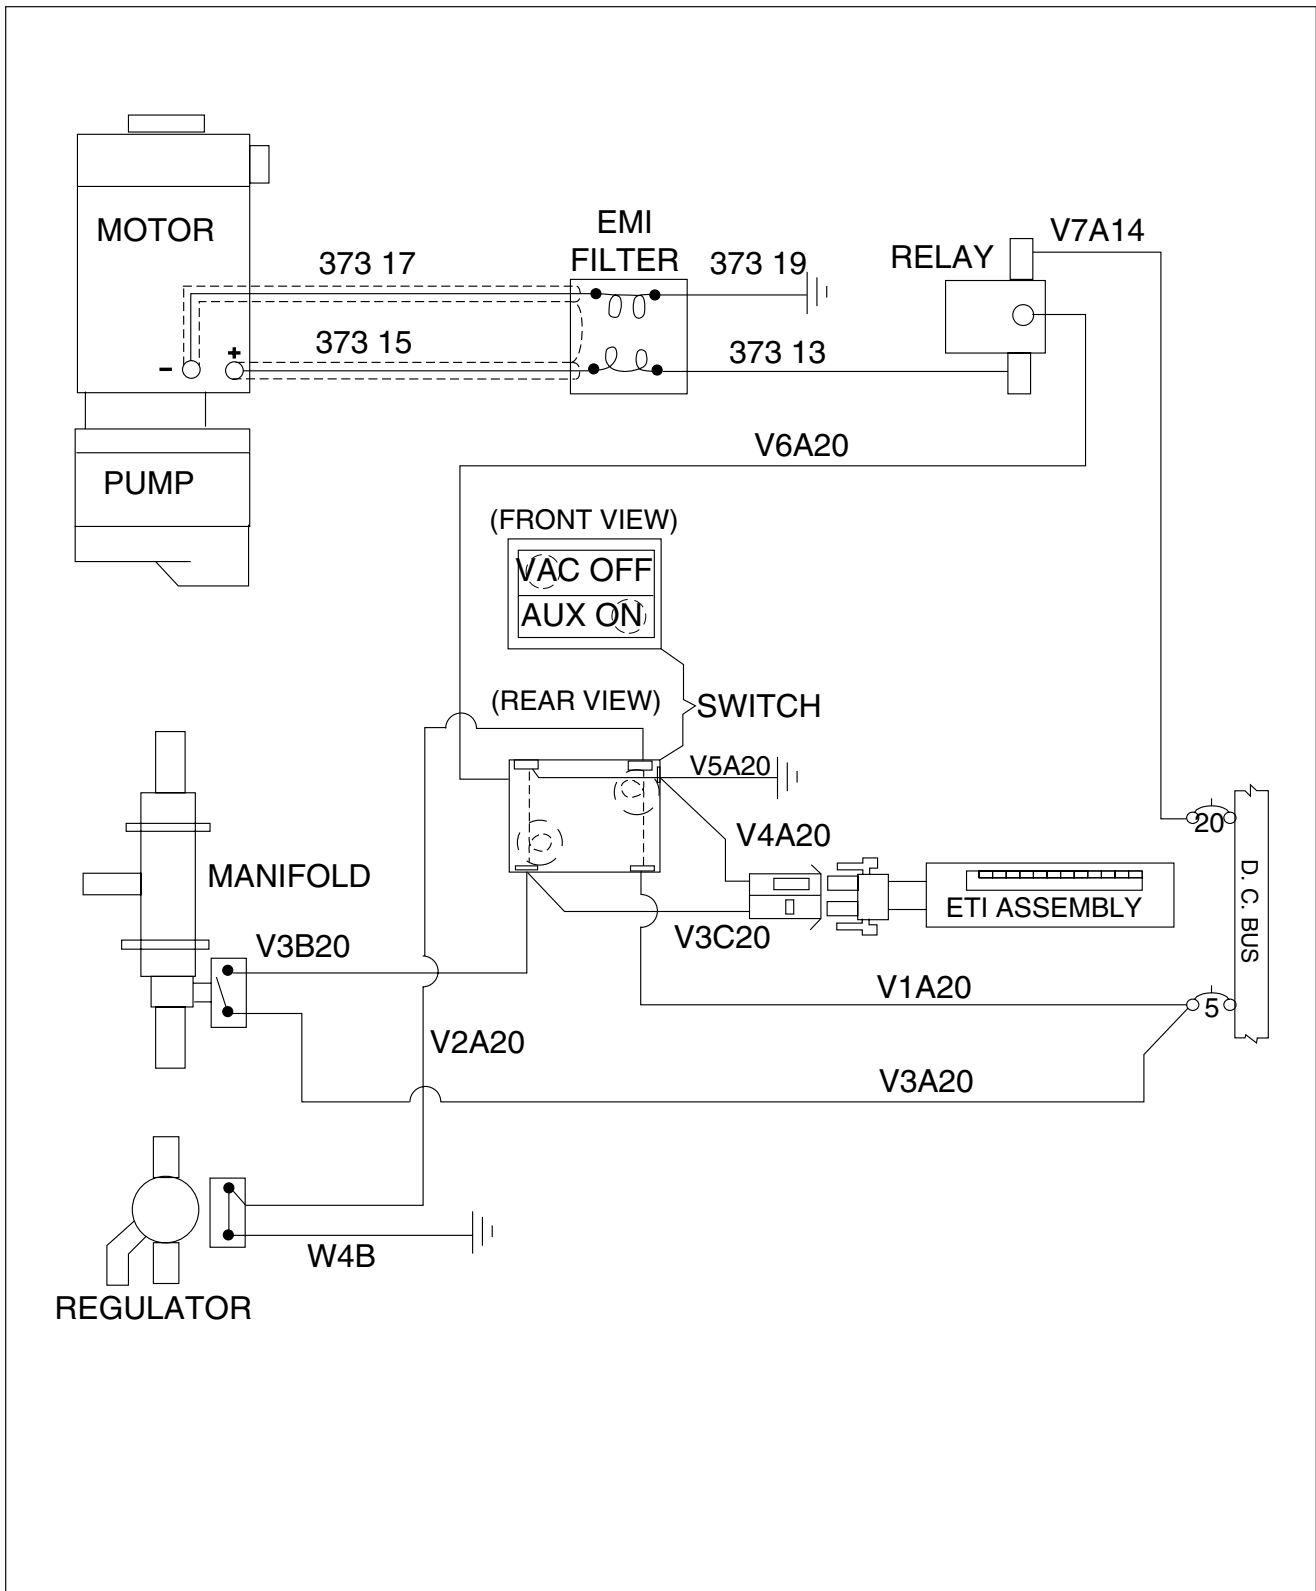

Figure 37-3. Archer II and III Auxiliary Vacuum Electrical Schematic
- a. The Archer II has a 12 Vdc pump motor and relay, while the Archer III has a 24 Vdc pump motor and relay. (Refer to Figure 37-3.)